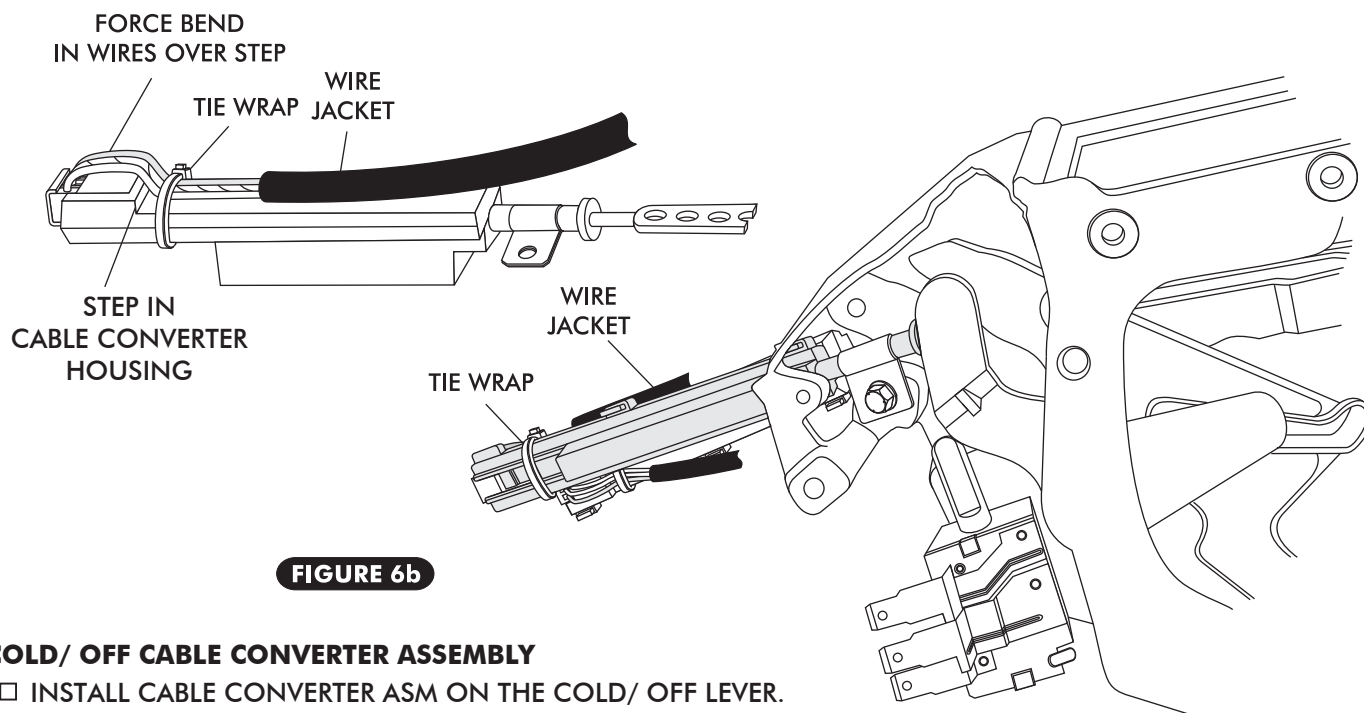

FIGURE 6b
- ONCE WIRES ARE CORRECTLY PLUGGED INTO CABLE CONVERTER ASSEMBLY, SECURE WIRES TO THE CABLE CONVERTER ASSEMBLY USING TIE WRAPS (SUPPLIED). SEE FIGURE 6b BELOW. THE TIE WRAP MUST BE LOCATED BETWEEN THE END OF THE WIRE JACKET AND THE STEP IN THE CABLE CONVERTER HOUSING FORCING A BEND IN EACH WIRE AS THEY PASS OVER THE STEP IN CABLE CONVERTER HOUSING. HEAD OF TIE WRAP MUST FALL ON EDGE OF HOUSING AS SHOWN TO REMAIN TIGHT. ENSURE THAT THE TIE WRAPS ARE SNUG ENOUGH THAT THE WIRES CANNOT MOVE. SEE FIGURE 6b.